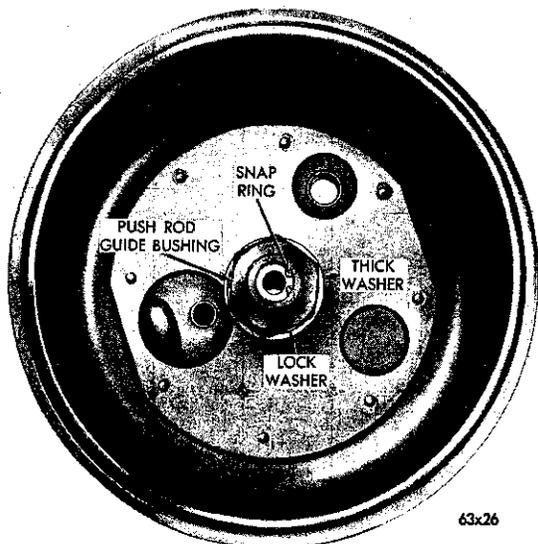

Fig. 44—Housing and Piston Guide
(7) Using a standard  $1\frac{3}{16}$ " socket, unscrew the push rod guide bushing from the slave cylinder housing and remove the front shell, a thick spacer washer and a lock washer. Remove and discard the "O" ring from the rolled tube that protrudes from the back of the control valve housing, and the gasket that seals between the control valve housing and the front shell of the booster. Remove and discard the "O" ring from a groove around the front end of the guide bushing (Fig. 44). Remove the Truarc snap ring, flat washer and lip seal from the counterbore in the front end of the guide bushing. Discard the seal. Re-